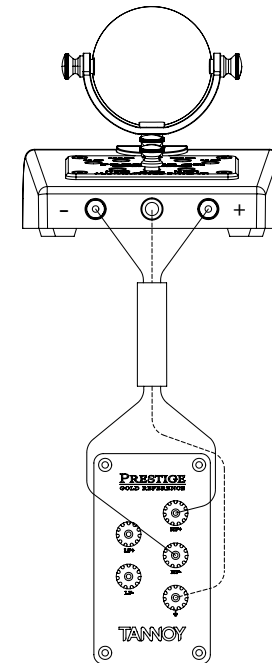

Fig. 2 Connecting in Bi-Wire Mode
**Bi-wiring installation:** The SuperTweeter is connected across the HF terminals on your loudspeaker. Again, an earth cable may be taken back to your amplifier, or to the earth terminal on Tannoy loudspeakers that have this provision. (Shown in Fig 2)